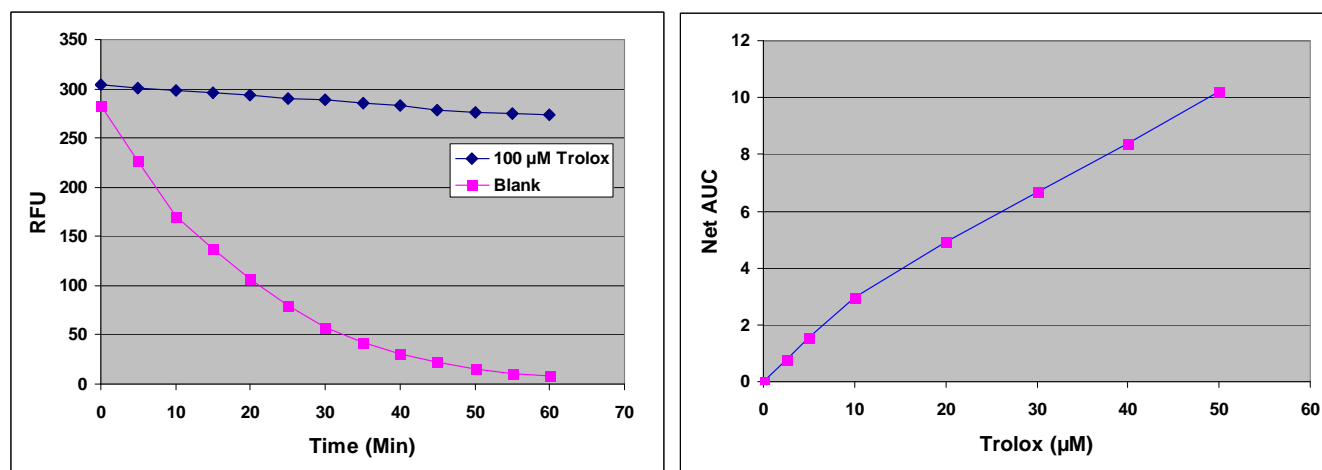

Figure 1: ORAC Activity Assay Standard Curve.
3. Graph the Net AUC on the y-axis against the Trolox™ Antioxidant Standard concentration on the x-axis (see Figure 1)
4. Calculate the μMole Trolox™ Equivalents (TE) of unknown sample by comparing the standard curve. Results (ORAC value) may be expressed as TE per L or g of sample.